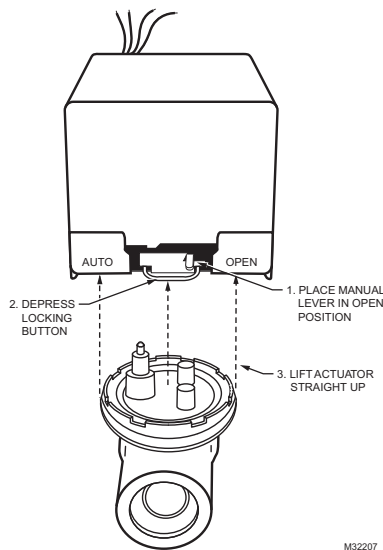

Fig. 3. Removing actuator from valve body.
**REMOVING ACTUATOR FROM THE VU-SERIES VALVE BODY ASSEMBLY (SEE FIG. 3)**